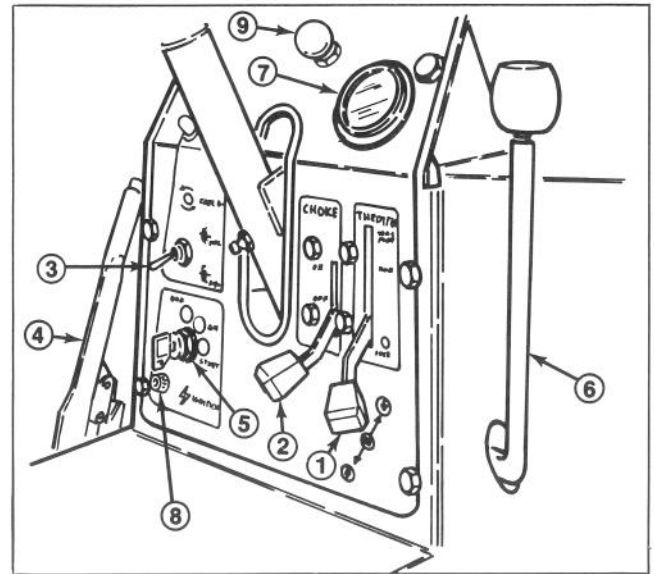

Figure 24
**Ignition Switch** (Fig. 24) — The ignition switch, used to start and stop the engine, has three positions: OFF, RUN and START. Rotate key clockwise — START position — to engage starter motor. Release key when engine starts. The key will move automatically to the ON position. To shut engine off, rotate key counter-clockwise to OFF position.
**Choke** (Fig. 24) — To start a cold engine, close carburetor choke by moving choke control upward to ON position. After engine starts, regulate choke to keep engine running smoothly. As soon as possible, open the choke by pulling it downward to the OFF position. A warm engine requires little or no choking.
**Throttle** (Fig. 24) — Throttle is used to operate engine at various speeds. Moving throttle upward increases engine speed, downward decreases engine speed. The throttle controls the speed of the reel blades and, in conjunction with traction pedal, controls ground speed of the machine. Position control in MOW for normal cutting. To attain TRANSPORT, move control to MOW, push control to right, then up to transport.
**Cutting Unit Lift Lever** (Fig. 24) The lift lever has three positions: LOWER, RAISE, and NEUTRAL. To lower cutting units to the ground, move lift lever forward. When lowering cutting units, make sure hydraulic cylinder is completely retracted before releasing lift lever. To raise cutting units, pull lift lever rearward to the RAISE position. Cutting units will not operate unless cylinder is retracted or when lifted. To decrease play in lever, tighten retaining locknut.
**Cutting Unit Drive Switch** (Fig. 24) — The switch has two positions: ENGAGE and DISENGAGE. Toggle switch engages electromagnetic clutch to drive cutting units. Amber light on dash indicate when reels are rotating.
**Hour Meter** (Fig. 24) — Indicates the total hours of machine operation. The Hour Meter starts to function whenever the key switch is rotated to "ON" position.
**Fuse Holder** (Fig. 24) — A 30 Amp fuse protects the starter circuit. To replace fuse, rotate knob counter-
**Parking Brake** (Fig. 24) — Whenever the engine is shut off, the parking brake must be engaged to prevent accidental movement of the machine. To engage the parking brake, pull back on lever. After releasing parking brake, move mower slightly in reverse to release brakes before moving forward.